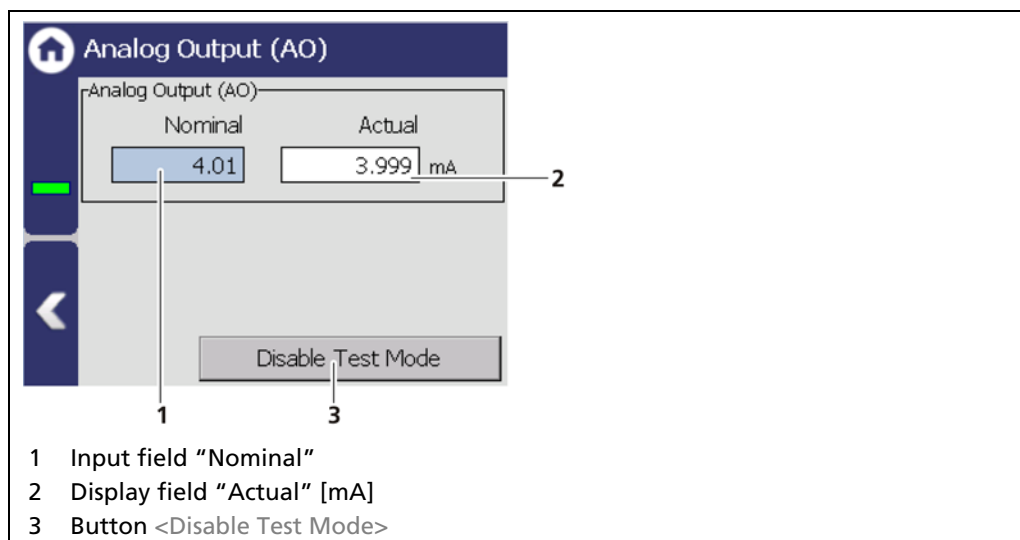

Fig. 113 Simulation Analog Output
1. Click on the input field (Fig. 113, item 1) and enter the target value for the simulation.
3. Click on the <Disable Test Mode> button (Fig. 113, item 3) to stop the simulation.